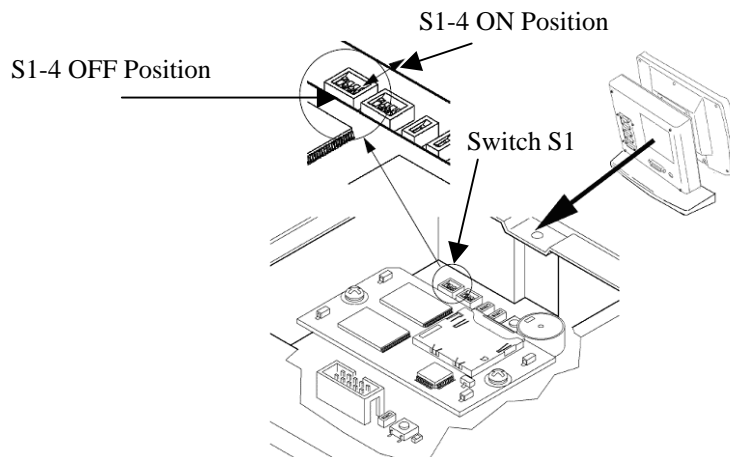

Figure 16-2
1. Set Switch S1 position 4 to the ON position. Reference Figure 16-2.